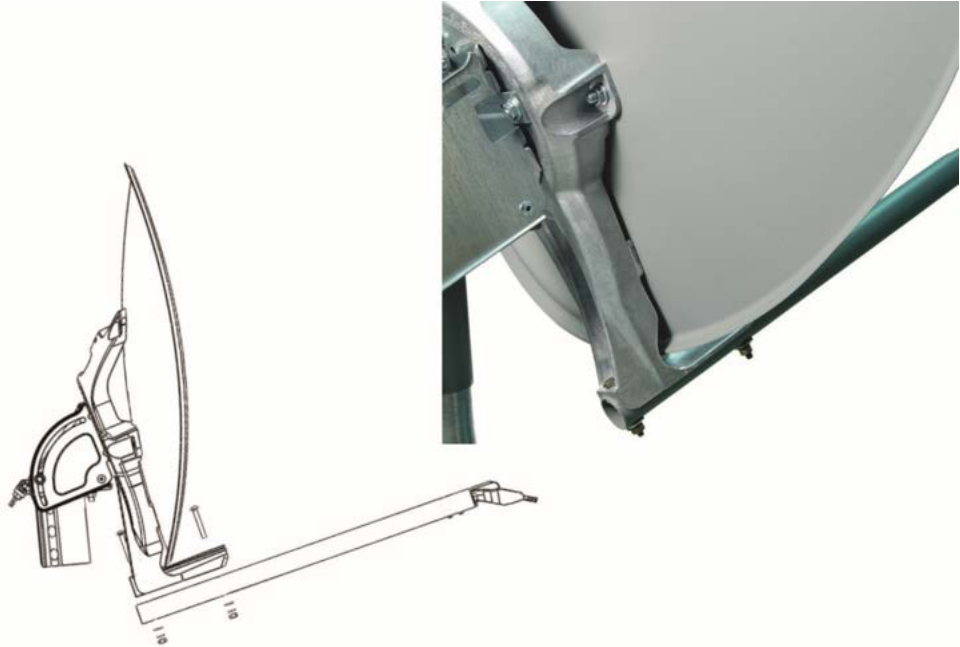

Figure 11: Attaching the feed support arm to the reflector bracket
1. Insert the feed support arm into the housing at the bottom of the reflector bracket, as shown in Figure 11.